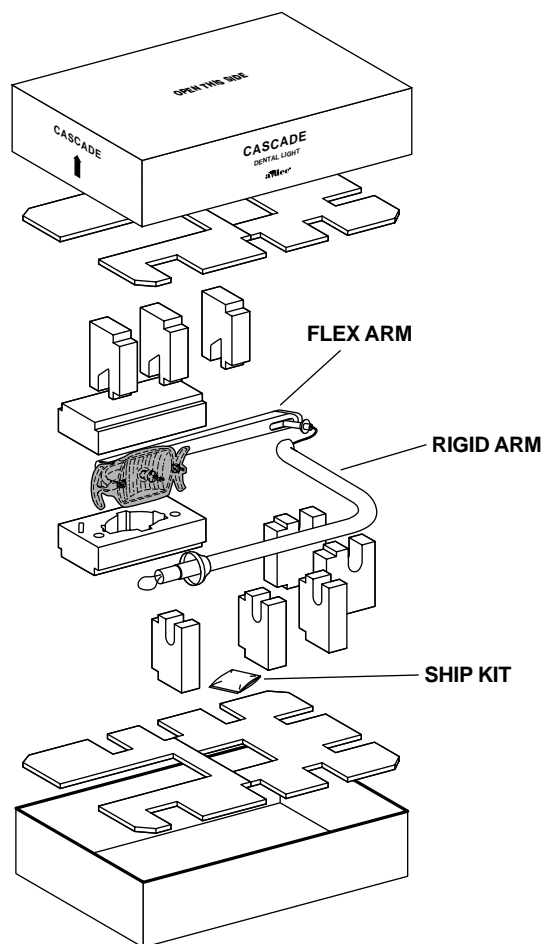
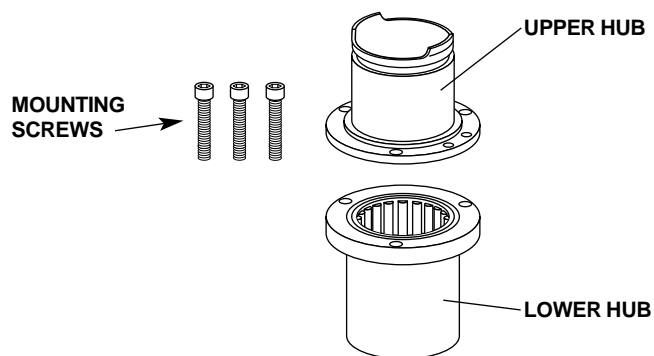

FIGURE 5
FIGURE 6
1. Unpack the dental light (see Figure 5). The light is packed with the flex arm separated from the rigid arm. Locate the ship kit and remove the bearing hub assembly and mounting screws (see Figure 6).